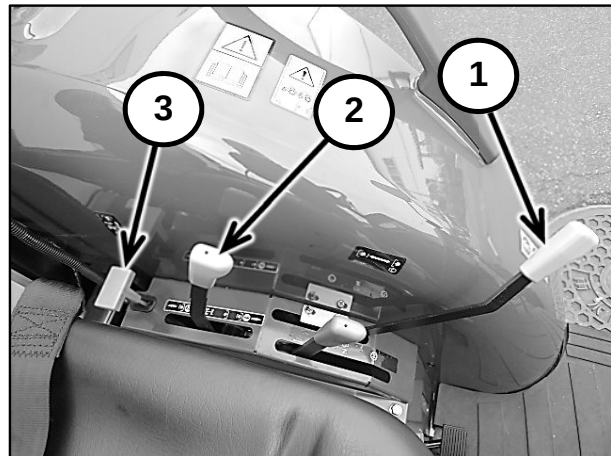

Figure 2-34
The PTO clutch control lever (1) in Figure 2-34, is located by the left-hand fender. Your tractor is equipped with an independent PTO and then use always the PTO clutch control lever to engage the PTO.
To engage the selected PTO(s), place the PTO speed shift lever (2) in Figure 2-34, into the desired position or place the MID PTO control lever (3) in Figure 2-34, into the engaged position, then shift the PTO clutch control lever (1) in Figure 2-34, into the engaged position.